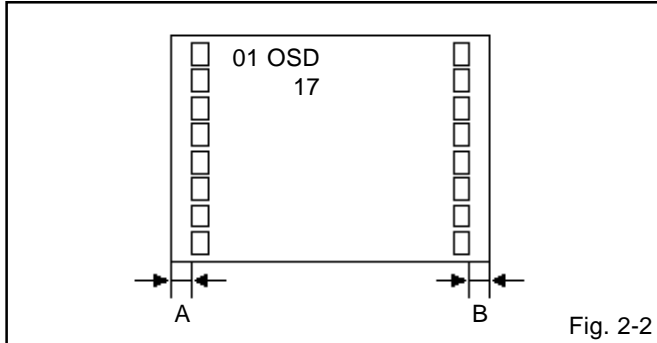

Fig. 2-2
2. Press the RIGHT/LEFT button on the remote control until the difference of A and B becomes minimum. **(Refer to Fig. 2-2)**